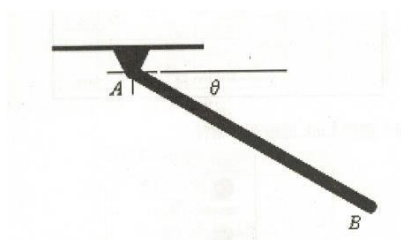

Fig. 2
3. As shown in Fig. 2, the pendulum(AB) has the initial angle 30° with respect to horizontal positive x-axis. If the pendulum has mass $m=2\text{kg}$, length $l=0.45\text{m}$, gravity $g=9.8\text{m/s}^2$ and release from an initial angular velocity 3 rad/s (CCW). Please solve for the angular acceleration and reaction force of revolute joint A at the release instant. (10%)